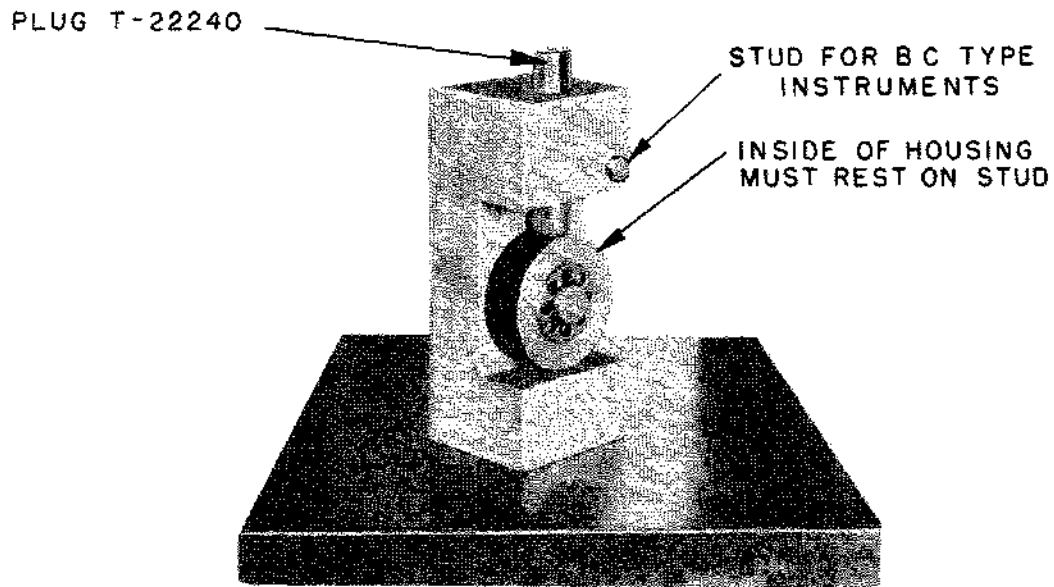

FIGURE 34 INSTALLING THE AIR PIVOT IN THE ROTOR HOUSING
8. Turn the fixture on end with plug uppermost, (see Fig.34) and press pivot into place with an arbor press or tap into place with a lead hammer. CAUTION: Be sure that the pivot is seated firmly in the bottom of the recess.